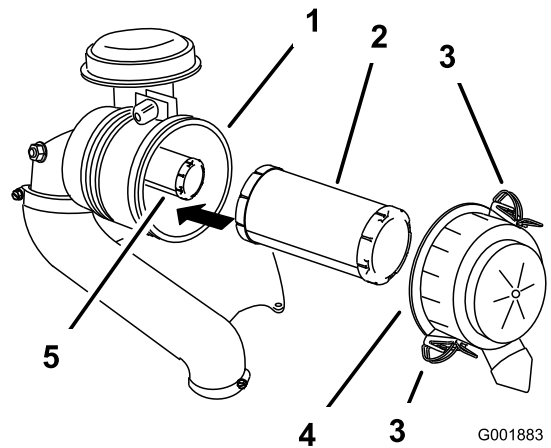

Figure 48
5. Gently slide the primary filter out of the air-cleaner body (Figure 48).
3. Release the latches on the air cleaner and pull the air-cleaner cover off the air-cleaner body (Figure 48).
2. If you are replacing the inner filter, carefully slide it into the filter body (Figure 48).
- Carefully slide the primary filter over the safety filter (Figure 48).
- Install the air-cleaner cover and secure the latches (Figure 48).